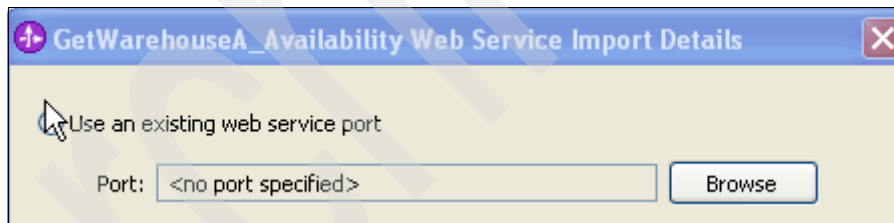

Figure 6-23 Binding the Import component to an existing Web service endpoint
- a. Select **Use an existing web service port**, as shown in Figure 6-23.